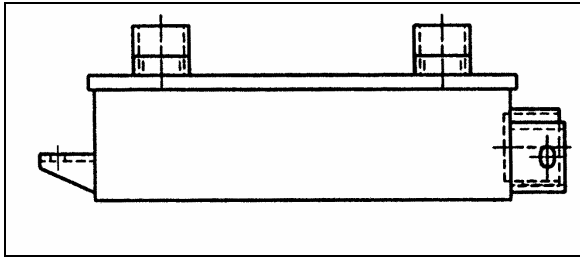

FIGURE 13: COOLER WITH RETARDER 07073
18. Adjust the retarder pressure to 80 ± 3 psi with the air pressure regulator. For more information refer to Section 12, "BRAKE AND AIR SYSTEM", under heading "AIR PRESSURE REGULATOR". The air pressure regulator is located at back of engine compartment, on R.H. side (Fig. 13) or in the R.H. side rear service compartment.